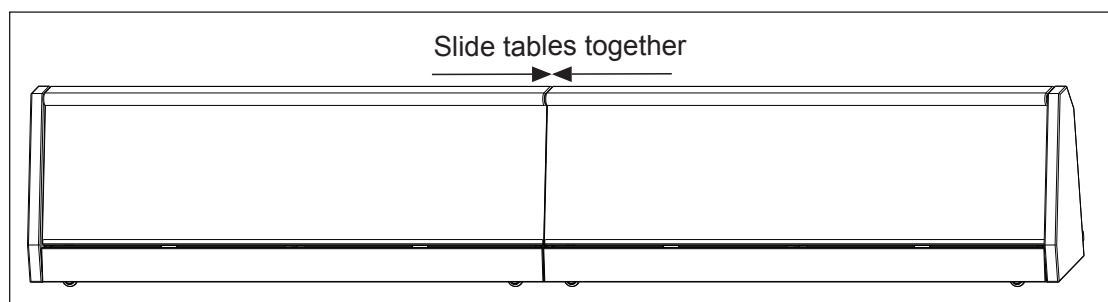

Figure 7: Sliding Sections Together
3. Slide the sections together as shown in **Figure 7**.